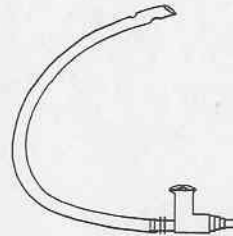

Figure 1-6. Catheter.
(4) *Catheter (fig 1-6).* The sterile catheters, furnished in two sizes, are used in conjunction with a patient suction tube by qualified medical personnel to aspirate a patient.